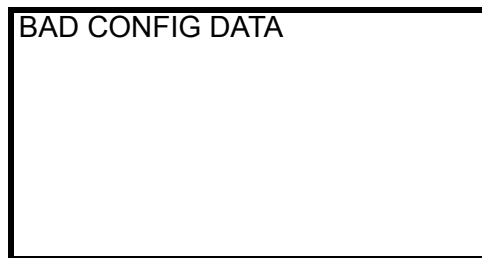
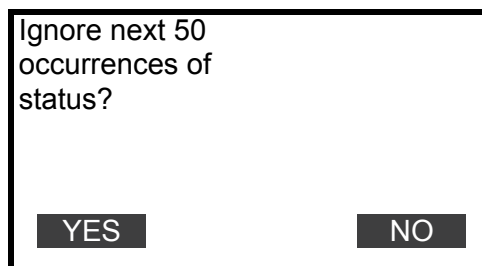

Figure 57 Error
Figure 58 Inquiring to ignore error
If an error is transmitted to the HART[®] Communicator while the device status is being displayed, the HART[®] Communicator's will display a transmitted error as shown in Figure 57.
By pressing F3 (NEXT), the transmitted error can be read. By pressing F2 (PREV), the previous error is displayed. Keep pressing F3 (NEXT) to view all the errors that occurred. The last display will be that as shown in Figure 58.
By pressing F1 (YES) here, up to fifty errors will be ignored and will not be sent to HART[®] Communicator. HART[®] Communicator's display will be as shown in Figure 56. Thus the condition of the device can be verified by using the device setup function until the 51st error is sent. However, once the 51st error has been transmitted, the display as shown in Figure 57 will pop up. Since an error experienced by the converter is always transmitted to the HART[®] Communicator, display shown in Figure 57 will reappear even if no action is taken in the display shown in Figure 56.
If F2 (NO) is selected in Figure 58, the HART[®] Communicator's display will change to that shown in Figure 56. However, unless the device is set back into its normal condition, the display shown in Figure 57 will appear immediately upon the next error message from the converter.